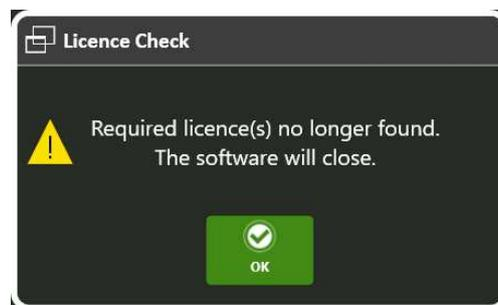

Figure 25. *License Check* dialog.
33. This will open the Licence check dialog to confirm that the licence is no longer valid (Figure 25).